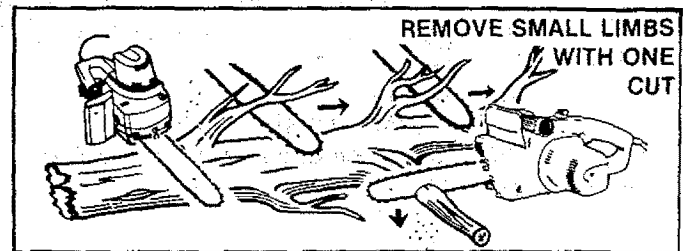

Figure 33
- c. **Start at the base of the felled tree and work towards the top, cutting branches and limbs.** Remove small limbs with one cut. Figure 33.